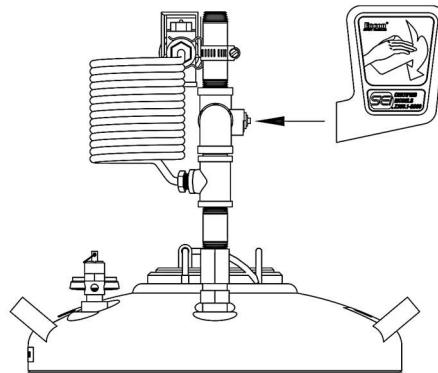

FIGURE 2
- C. Attach push plate over stem of ball valve and secure tightly with lock nut provided (Figure 2).